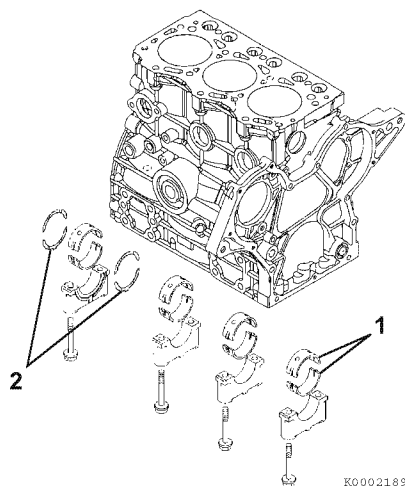

Figure 6-61
12. Remove the bearing inserts (**Figure 6-61, (1)**) and thrust bearings (**Figure 6-61, (2)**).